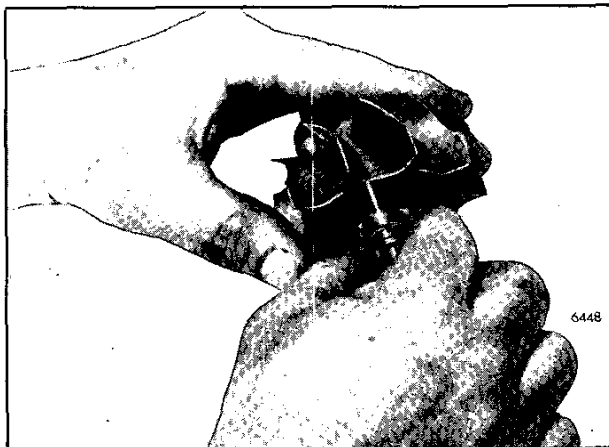

Fig. 18 - Installing New Piston Ring Seal
4. Fill the piston ring groove in the turbine wheel shaft with silicone grease. Carefully install the new piston ring seal over the shaft bearing journals and into the groove on the shaft (Fig. 18).